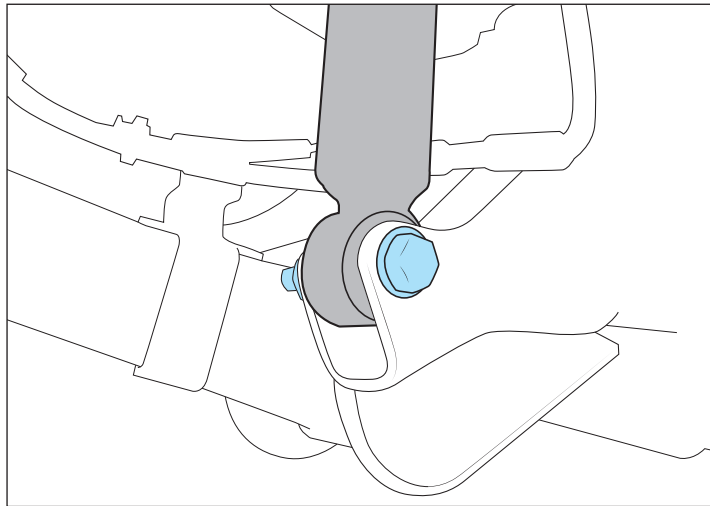

Figure 14
6. Remove lower shock mount hardware and SAVE (fig. 14).